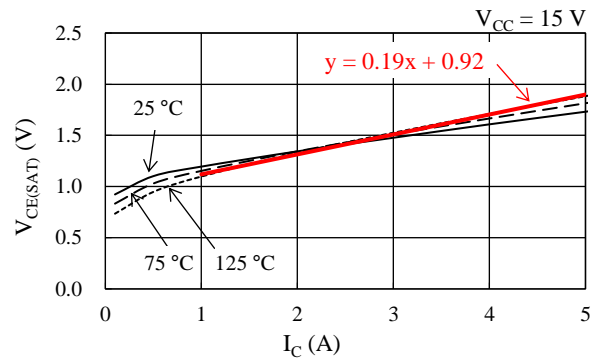

Figure 13-3. Linear Approximate Equation of  $V_{CE(SAT)}$  vs.  $I_C$
Steady-state loss in an IGBT can be computed by using the  $V_{CE(SAT)}$  vs.  $I_C$  curves, listed in Section 14.3.1. As expressed by the curves in Figure 13-3, linear approximations at a range the  $I_C$  is actually used are obtained by:  $V_{CE(SAT)} = \alpha \times I_C + \beta$ . The values gained by the above calculation are then applied as parameters in Equation (5), below. Hence, the equation to obtain the IGBT steady-state loss,  $P_{ON}$ , is: